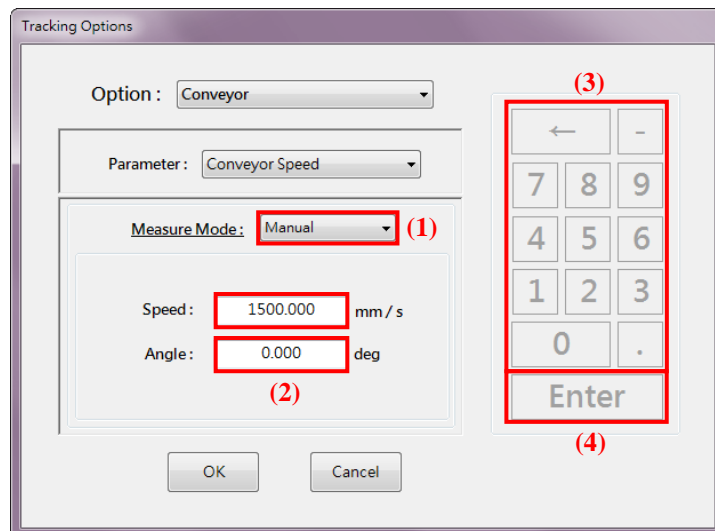

Figure 8-15 Conveyor speed manual setting mode
- (1). As shown in Figure 8-15, select the "Manual" option.
- (2). Click on the "Speed" or "Angle" text box.
- (3). Click the numeric keypad to enter the new value.
- (4). Click the "Enter" button to confirm the entry.